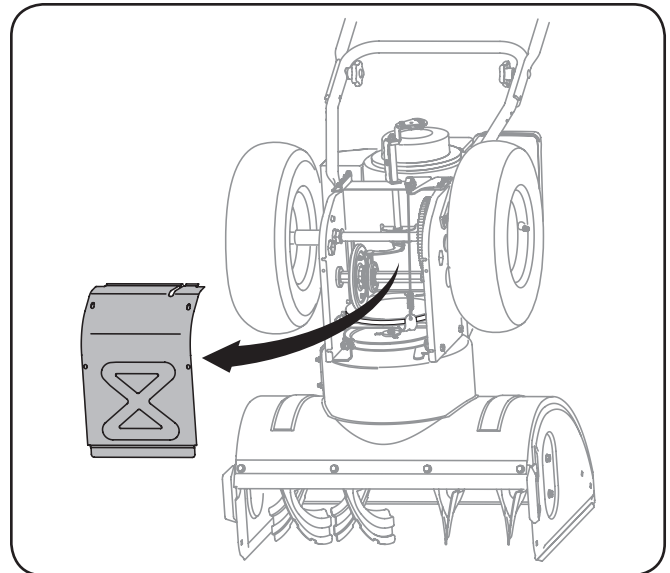

Figure 7-3
5. Remove the frame cover from the underside of the snow thrower by removing the self-tapping screws which secure it. See Figure 7-3.
5. Remove the frame cover from the underside of the snow thrower by removing the self-tapping screws which secure it. Refer to Figure 7-3.
3. Remove the frame cover from the underside of the snow thrower by removing four self-tapping screws which secure it. See Figure 7-3.